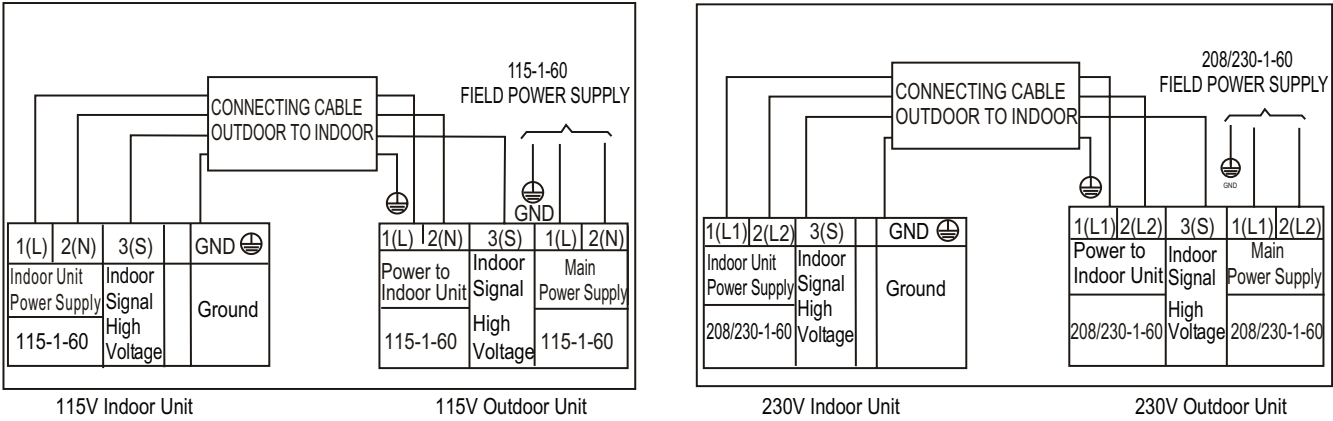

Fig. 3 — Connection Diagrams
- 2. All connections between the indoor and outdoor units must adhere to the connections shown in Figure 3. The connections are polarity sensitive and improper wiring will result in a fault code.